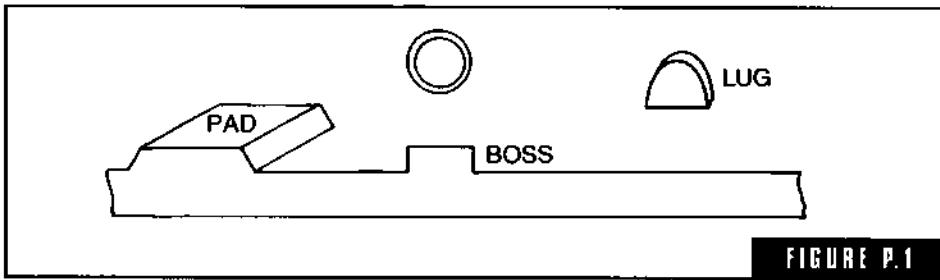

FIGURE P.1
**pad** A shallow projection on a casting distinguished from a boss or lug by shape and size only (Fig. P-1).